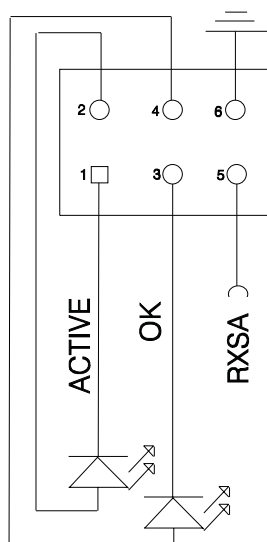

Figure 4-7. Connecting the LED Outputs
(1) I = Input; O = Output
The signals used for the indicator LEDs (Read O.K. and Transmitting) are available at Indicator Outputs connector (H), they can be used to drive external LEDs or buzzers, they must be connected as shown in Figure 4-7. Ensure that the values given Table 2-18 are not exceeded.